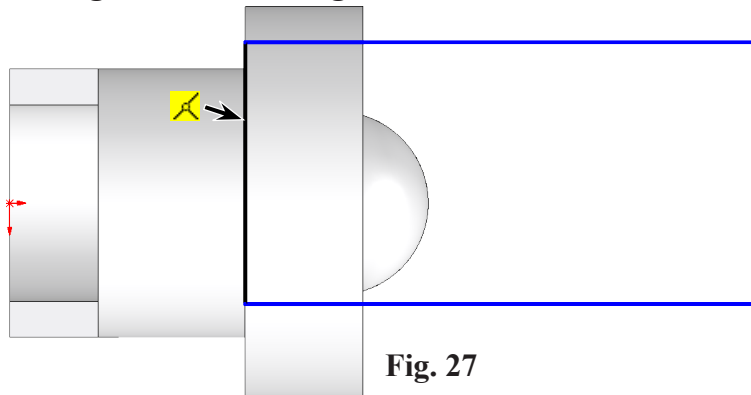

Fig. 27
Step 5. Sketch **corner rectangle with left edge of rectangle coincident with middle edge of Revolve1**, **Fig. 27.**